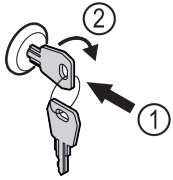

Fig. 192
- ▶ Insert key Fig. 192 (1).
- ▶ Turn key clockwise by 90° Fig. 192 (2).